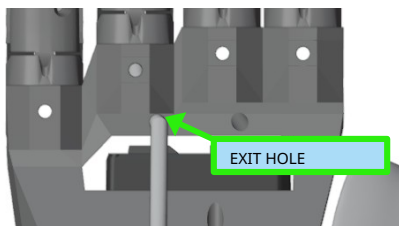
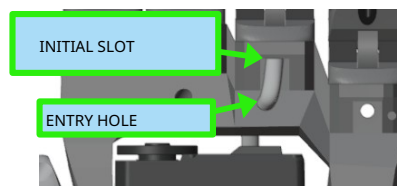

Figure 5.31: Inserting tube into the tendon exit hole (rear view)
Figure 5.32 Inserting into the initial slot (front view)
1. Insert the PTFE tube into the exit hole (on the back of the skeleton) of the flexion tendon (figure 5.31), pull it out from the entry hole on the front of the skeleton and insert it into the initial slot figure 5.32)